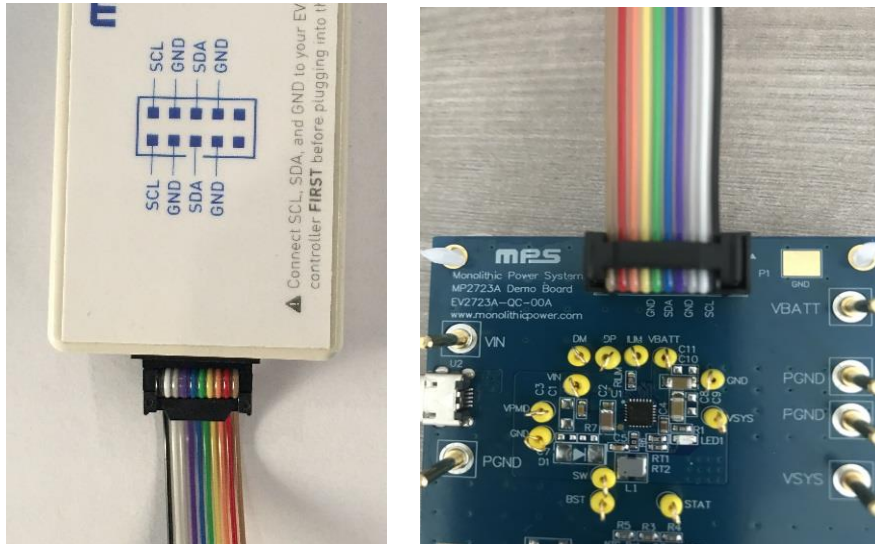

Figure 6: EVB to MPS I²C Communication Interface Wire Connection
2. Connect SCL, SDA, and GND (see Figure 6). Refer to the MP2723A datasheet for further clarification.